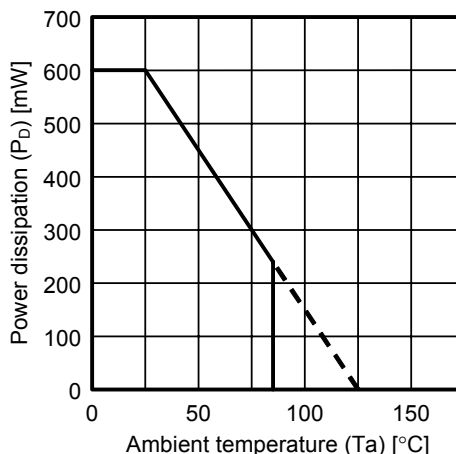

Figure 3 Power Dissipation of Package (Mounted on Board)
- Since this IC has a built-in power MOS FET, make sure that dissipation of the power MOS FET does not exceed the allowable power dissipation of the package. (Refer to Figure 3.)